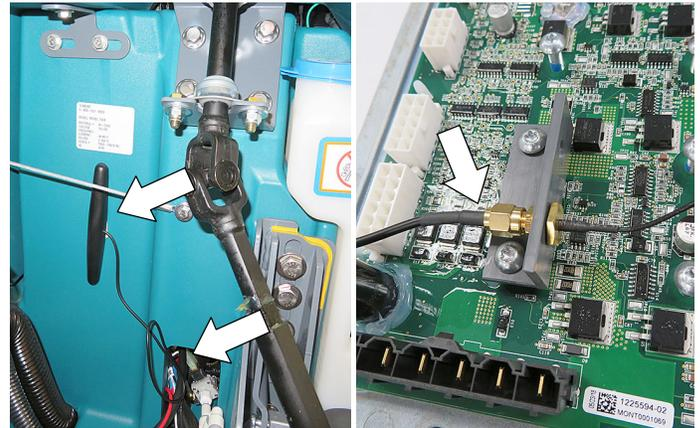

Fig. 8
- Adhere the antenna to the machine as shown and route the antenna wire to the new IRIS circuit board. Connect the antenna wire to the circuit board as shown (Figure 8). Secure the antenna wire with a cable-tie.